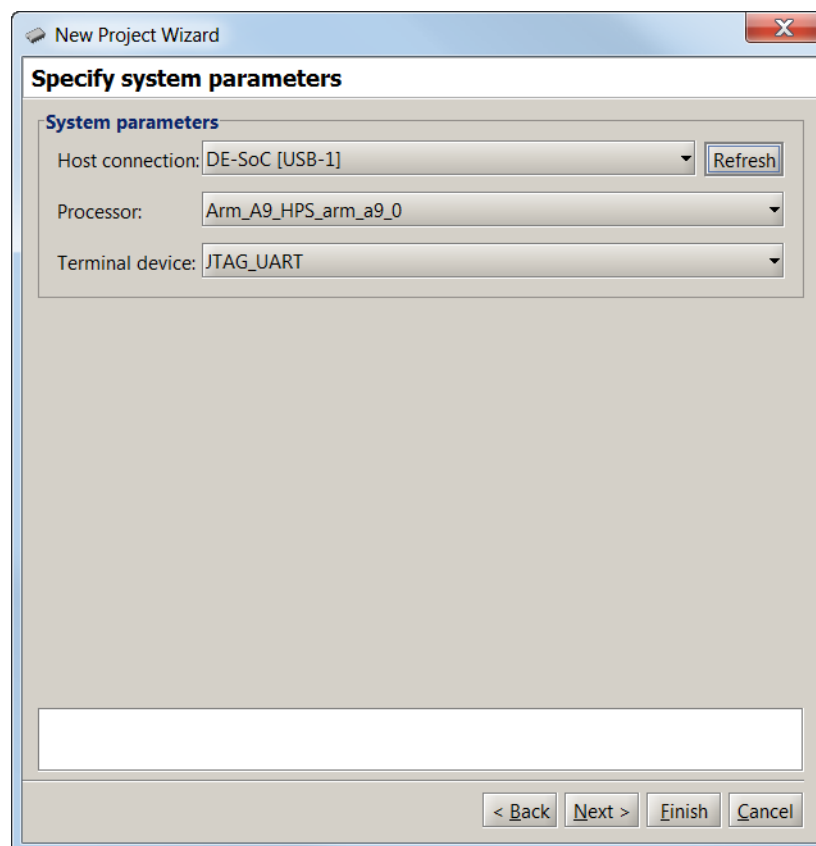
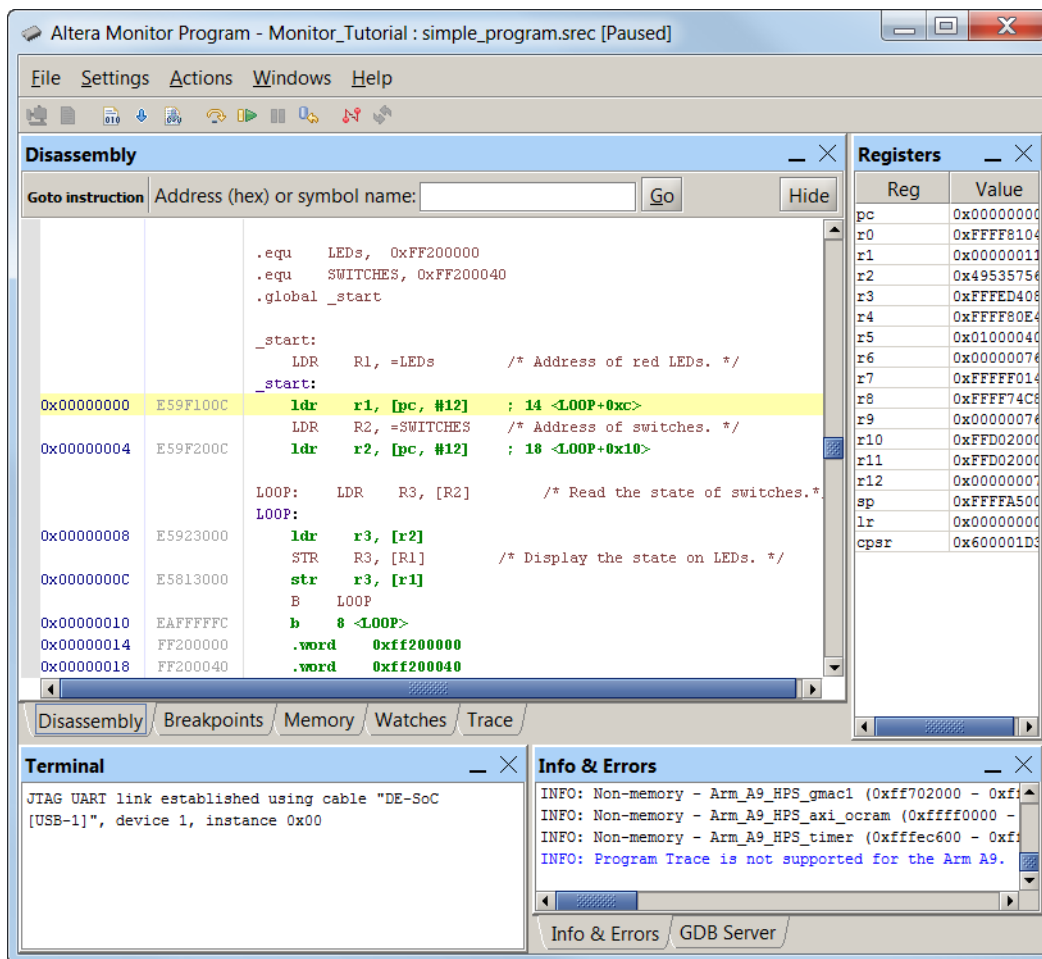

Figure 9. Specifying system settings.
Figure 13. The Monitor Program window after loading the program.
4. Click **Next** to advance to the window in Figure 9. This window is used to specify the connection to the FPGA board, the processor that should be used (some hardware systems may contain multiple processors), and the terminal device. The **Host connection** drop-down list contains the physical connection links (such as cables) that exist between the host computer and any FPGA boards connected to it. The ARM processors available in the system are found in the **Processor** drop-down list, and all terminal devices connected to the selected processor are displayed in the **Terminal device** drop-down list. We discuss terminal devices in Section 5.
Accept the default values that are displayed in Figure 9. If the Host Connection box is blank, make sure that the DE1-SoC board is connected to the host by a USB cable and that its power is turned on. Then, press the **Refresh** button and select the USB Blaster as the desired choice. For the DE1-SoC board the required choice is DE-SoC.
After successfully completing this step, the Monitor Program display should look similar to Figure 13. At this point the processor is halted at the first instruction of the program that has to be executed, which is highlighted in yellow shading. The main part of the display in Figure 13 is called the *Disassembly* window. It shows the machine code for the assembled program, as well as the addresses of memory locations in which the instructions are loaded. It also shows the assembly-language version of the assembled instructions.
loads into processor register R1 the memory address of the I/O data register that is connected to the LEDs on the board. As seen in Figure 13, this instruction is replaced with the instruction
This section of the tutorial demonstrates the functionality of the Monitor Program's *Terminal* window, which supports text-based input and output. For this example, create a new Monitor Program project, called *Monitor_Terminal*. When creating the project, follow the same steps shown for the *Monitor_Tutorial* project, which were illustrated in Figures 3 to 10. For the screen shown in Figure 7 set the program type to **Assembly Program**, and select the sample program named *JTAG_UART*. The source code file that will be displayed in the screen of Figure 13 is called *JTAG_UART.s*. It communicates using memory-mapped I/O with the JTAG UART in the DE1-SoC Computer that is selected as the **Terminal device** in the screen of Figure 9.
In addition to the *JTAG_UART*, there exists another option for the terminal device. In Figure 9, in the **Terminal device** dropdown menu there is also a **Semihosting** option that is useful when C programs are used, as explained in the next section.